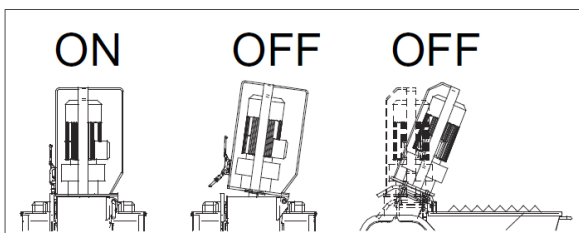

FIG.11
Secure the machine in place by means of the wheel brake (ref.5 fig.11).
**!** - Opening of the mixing chamber causes shutdown of the machine moving parts (fig.11). First close the mixing chamber and press the start pushbutton to start the machine.